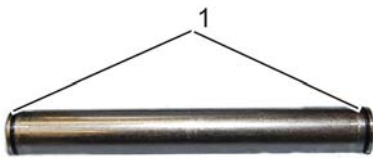

Fig. 78: Air pipe
- 20.** ▶ Detach O-rings (Fig. 78/1) from air pipes.